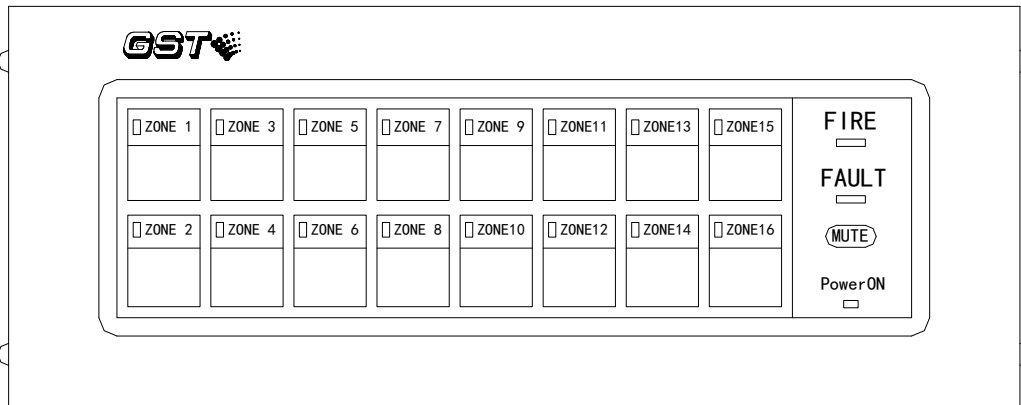

Fig. 2
2. Front panel is shown in Fig. 2.